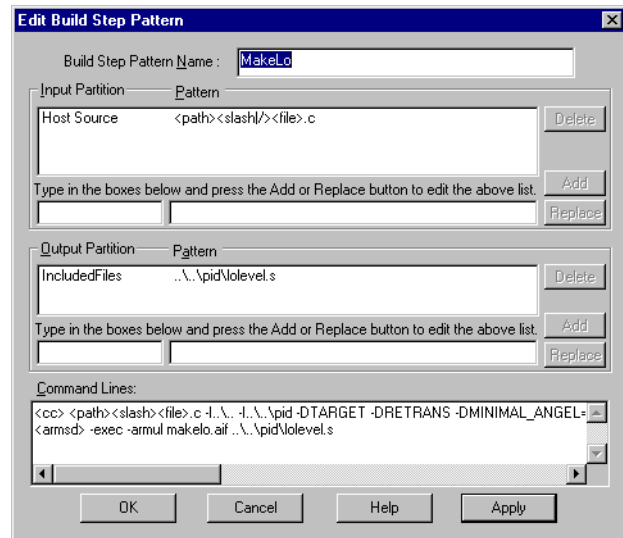

Figure 13-9 Edit makelo.c build step
7. Select **MakeLo** from the list of build step patterns and click on the **Edit...** button. The Edit Build Step Pattern dialog is displayed (Figure 13-9).